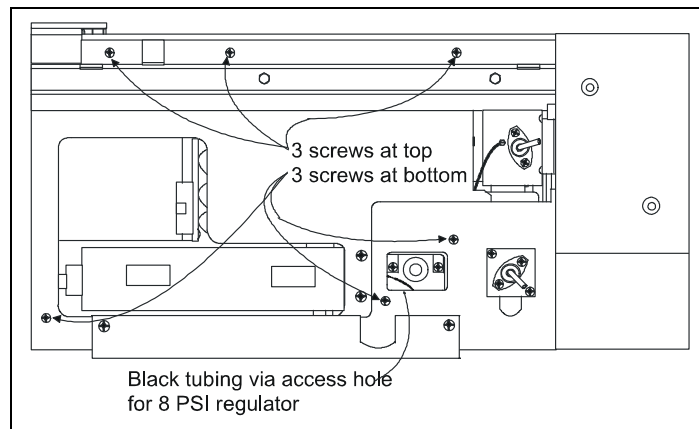

FIGURE 2-21 Tubing and Hardware Locations
3. Remove the Front panel (Recorder) by removing four (4) screws and disconnecting the cable at the Recorder Interface PCB.
6. Disconnect the two (2) cables that run from the Main PCB to JP1 and JP2 at the Solenoid Driver PCB (P/N 0012-00-1096-01, P/N 0012-00-1097-01). Disconnect the Bimba cables from JP7 at the Solenoid Driver PCB. Remove all of these cables from the cable clamp.
9. Loosen the mounting hardware and slide the Purge Assembly (K3/K5) out. Disconnect the tubing at the reservoir from the Purge Assembly. Disconnect the black tubing to the Bimba via the 8 PSI regulator adjustment access hole (See FIGURE 2-21).
10. Remove the mounting hardware of the Pneumatic Assembly (3 screws at top and 3 screws at bottom - shown in FIGURE 2-21) and slide the assembly through the opening of the chassis at the Front panel.